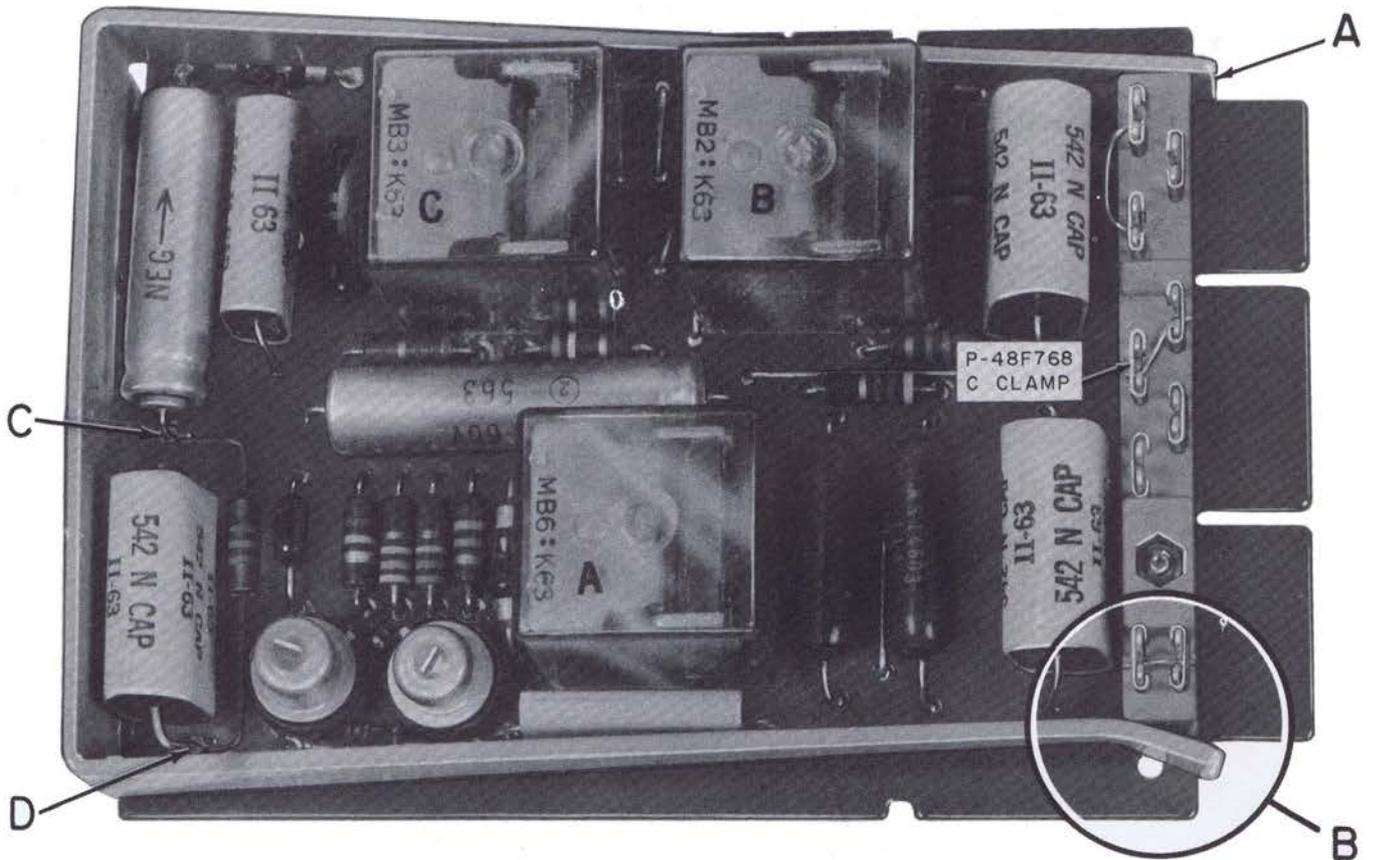
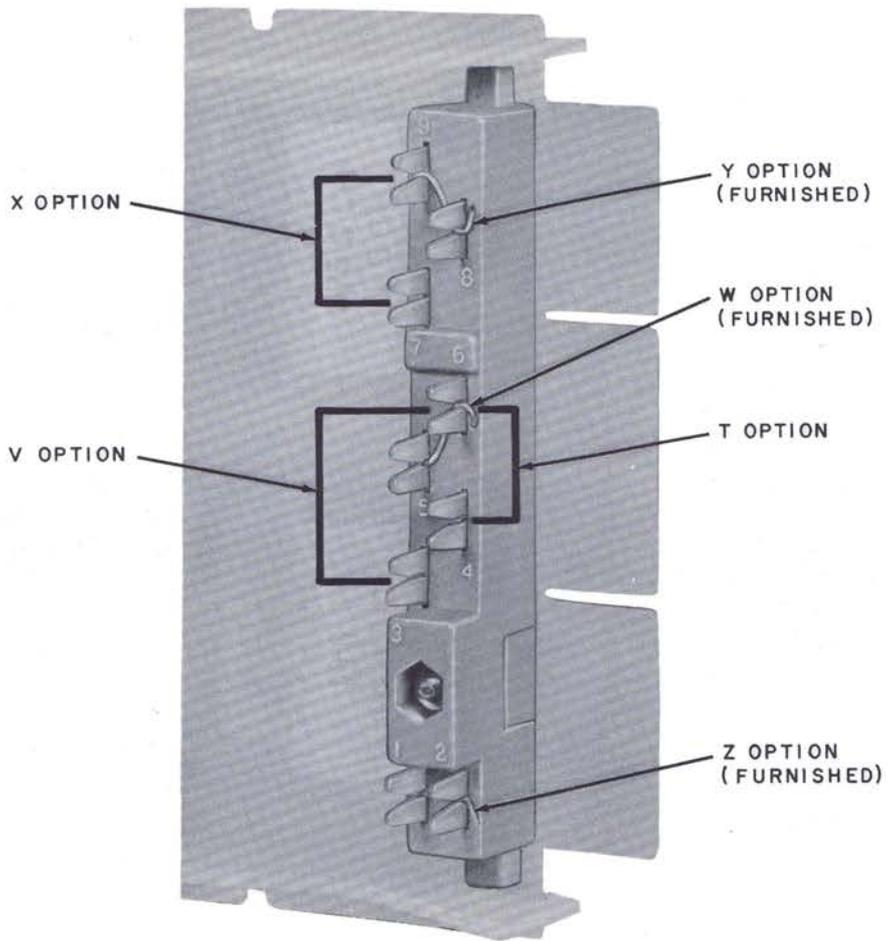

Fig. 4 — Modification of 400B or C KTU
Fig. 5 — Option Block, 400A, B, and C KTUs
3.02 On early production models of 400B and C KTUs, the wire clips on the option blocks require that small (P-48F768) C-clamps be slipped over the clips to assure option strap retention and good circuit continuity (Fig. 4).
3.03 Later production models of the 400B and C and all 400D KTUs are equipped with flat stamped option block terminals that do not require use of C-clamps (Fig. 5 and 6).
3.08 To modify the 400B and C KTUs, connect a 1/2-watt, 100,000-ohm resistor electrically in parallel with the C5 capacitor. Physically, place, connect, and solder the resistor between points C and D as shown in Fig. 4.
5.02 Line circuit failure can occur as a result of improper seating of the 400B or C KTU in its receptacle. On early production models of these units, the ends of the U-shaped handle may strike the receptacle and prevent the unit from being fully seated (point A on Fig. 4). Should this condition exist, bend the outer ends of the handle sufficiently to permit passage over the ends of the receptacle (point B on Fig. 4). After bending, the arms of the handle should be sufficiently pretensioned (squeezed together at the base of the U) to rest snugly against the ends of the option block. Later models have the option block insert extended at each end sufficiently to hold unbent U-handle arms in order to allow proper insertion in a mounting receptacle. Handles should not be flared on these KTUs (see Fig. 5).